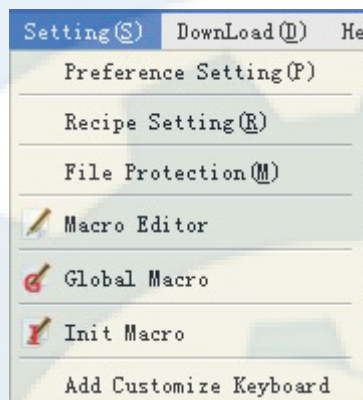

Figure 2-34: “Setting” menu
“Setting” menu consists of the following commands: Preference Setting (P), Alarm Setting (A), Recipe Setting (R), File Protection (M), Macro Editor, Converter, Global Macro and Initial Macro. See Figure 2-34.